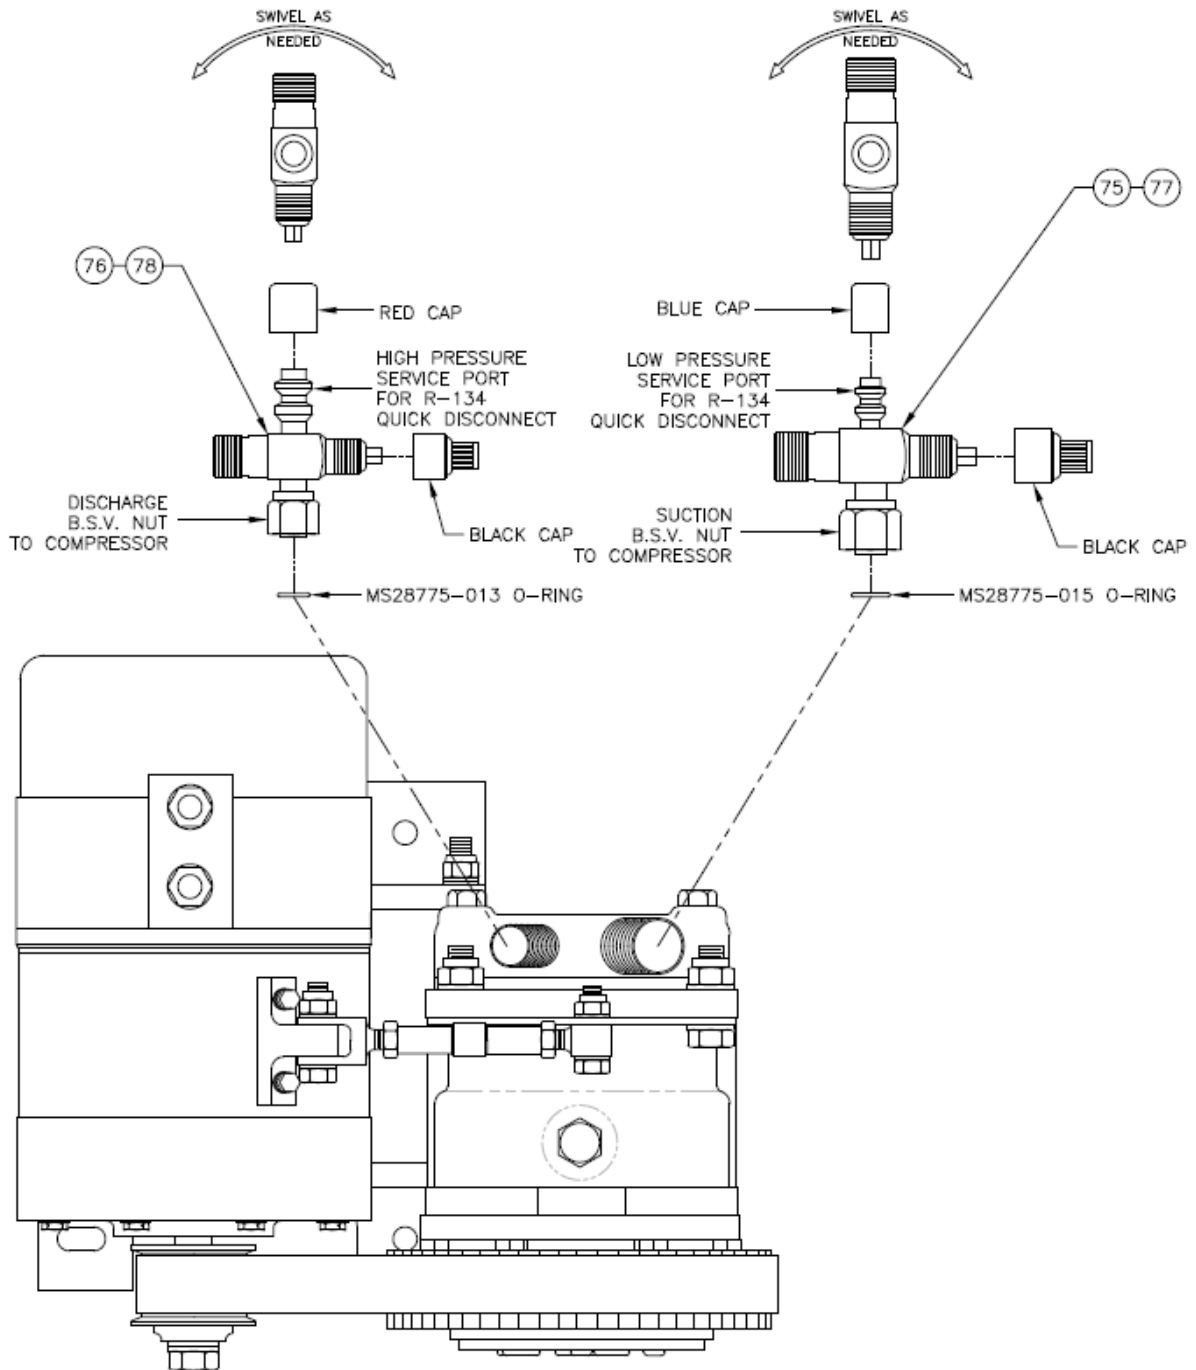

**FIG. 4**
10.1 REVISION 1: Add MODS D, E, F, G, H, J, K into CMM. Add Z26-8900-8 & -9 to CMM. Add Section 8.3, Figures 4, 5, 6, 7 and 8.